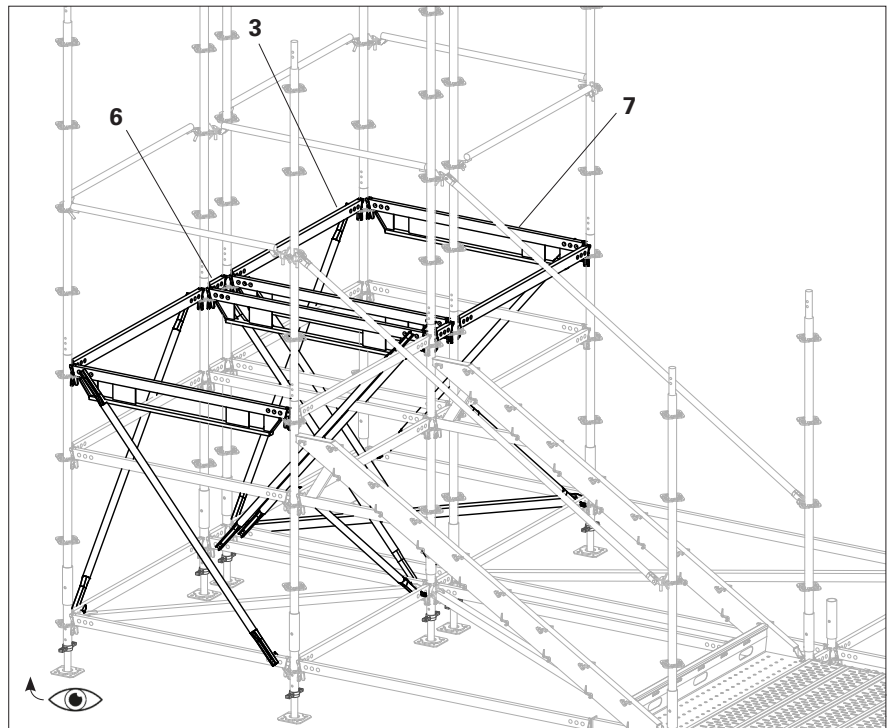

Fig. B2.04
4. Secure all Ledger Braces UBL-2 with Safety Washers UBL PEW (**56**) to prevent unauthorised removal. See the section System components, Section "Safety Washer UBL PEW" on page 23. (Fig B2.04 + B2.04a)